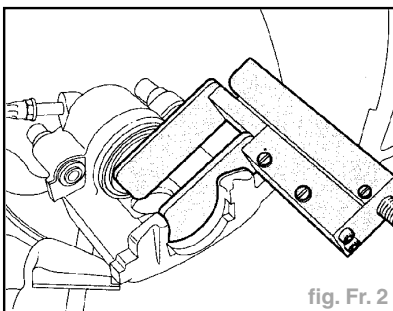

fig. Fr. 2
- Repousser le piston (fig. Fr. 2).